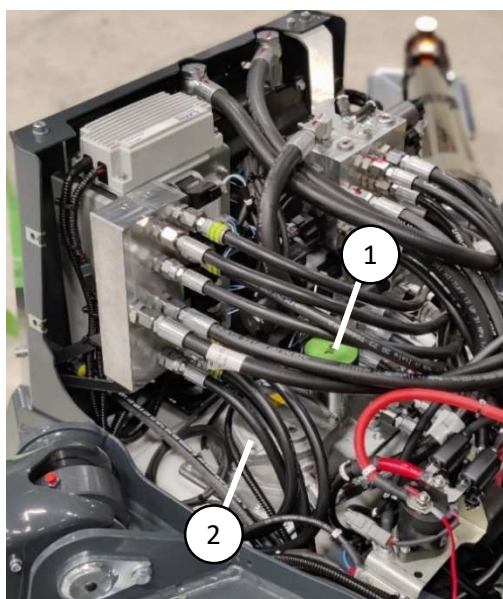

Figure 26. Hydraulic oil tank
Hydraulic oil change can be done either from the suction filter or through the hydraulic oil tank cap (figure 26 (1)) with a suction pump. The suction filter is located in the bottom of the chassis behind the service hatch (figure 27). Hydraulic oil can be drained by detaching the backup pump hose (figure 27 (1)) from the suction filter.
Hydraulic oil return filter (figure 26 (2)) is located on top of the hydraulic oil tank at the rear of the chassis. The filter change is done by opening the lid of the filter case and replacing the filter cartridge with a new one. Make sure there are no leaks before installing the covers back to the machine.
Hydraulic oil level can be checked with the dipstick in the filter cap (figure 26 (1)). Oil level should be at the upper mark in the dipstick when the access platform is in transport position (booms down and outriggers completely up).